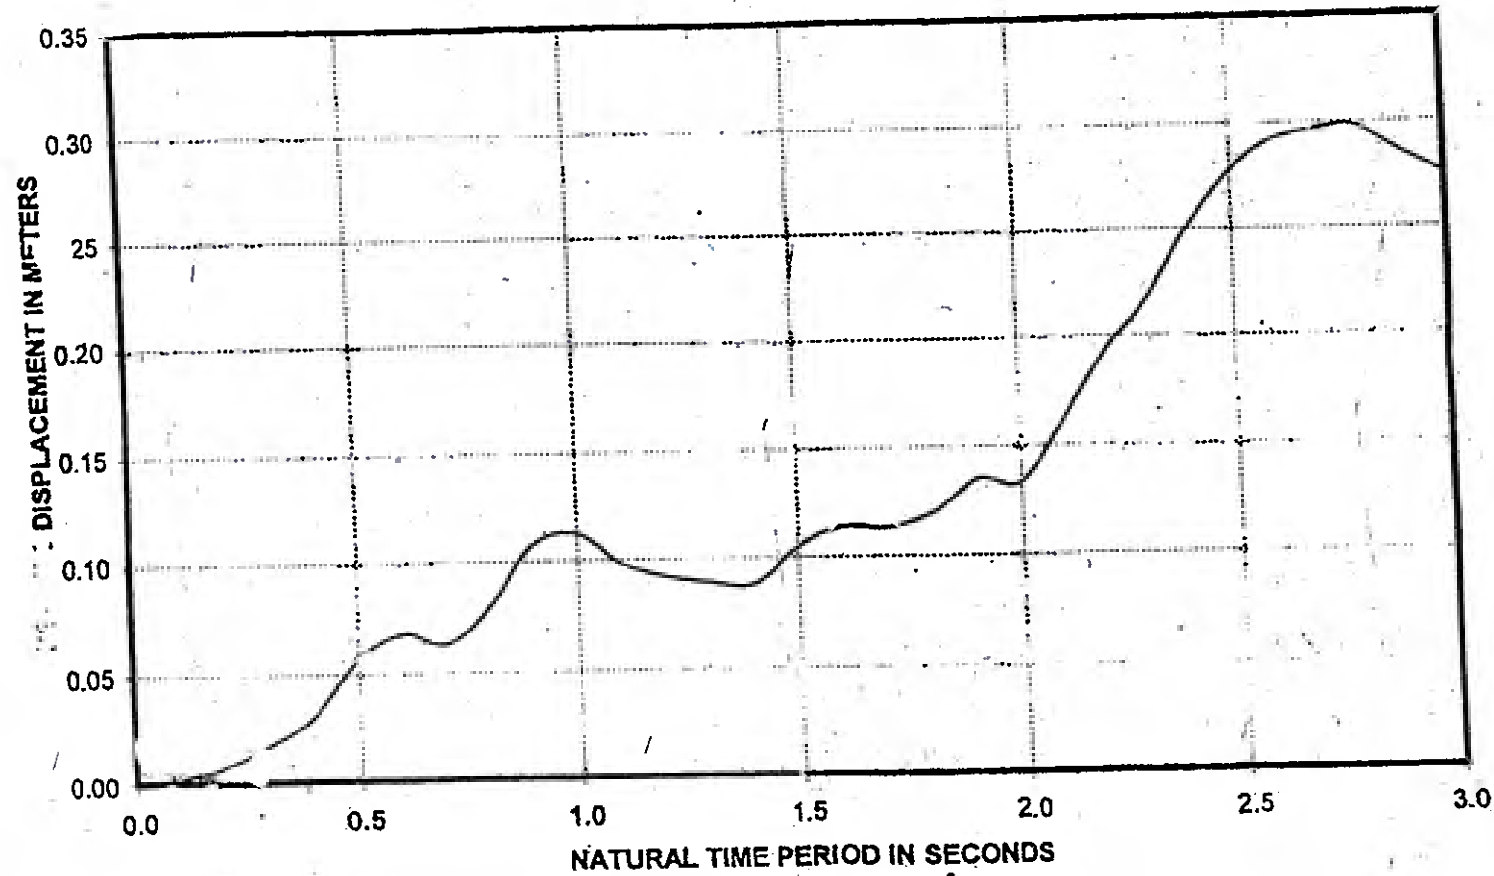

Figure 1. Qm 2(b) Qm 3, Qm 4
b. A one story RCC building is idealized as plane frame as shown in figure. The cross section of columns is 300 mm x 300 mm and $E = 20,000$ Mpa. If the building is to be designed for ground motion, the response spectrum of which is shown in figure 1 but scaled to peak ground acceleration of 0.5g. Determine the design values of lateral deformation and bending moments in the columns for the following two conditions:
- (iii) As a special case, if $K_x = 25000 \text{ KN/m}$ for both frames B and C and $e = 0$, calculate the frequencies and mode shapes. And if the system is subjected to the ground motion only in X direction, the response spectrum of which is shown in figure 1. Determine the design value of lateral deformation, base shear and bending moment for the system.
Q.4 A three storey frame with free vibration characteristics as given below is subjected to a ground motion characterized by the design spectrum given in the figure 1 but scaled to peak ground acceleration of $0.5g$. Calculate the design values of lateral deformation of floors. 20